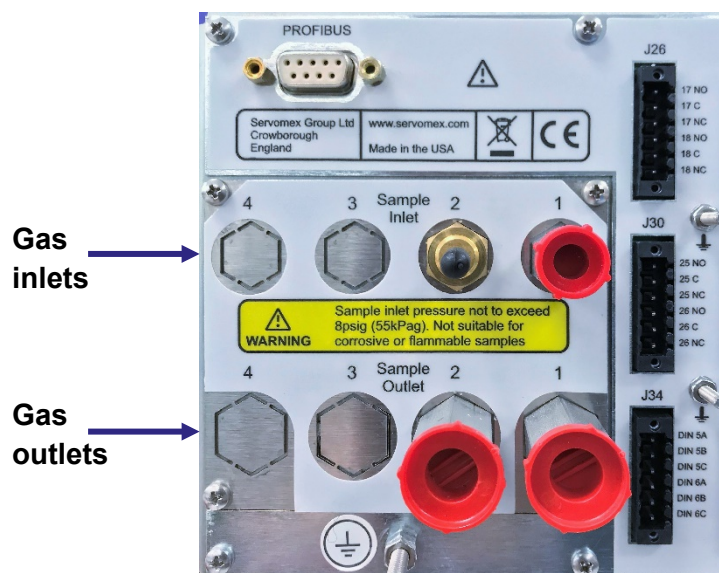

Figure 3-1: Gas inlets and outlets on rear of the analyzer
2. Remove the protective plastic covers from the sample gas inlets and outlets on the rear of the analyzer (Figure 3-1).